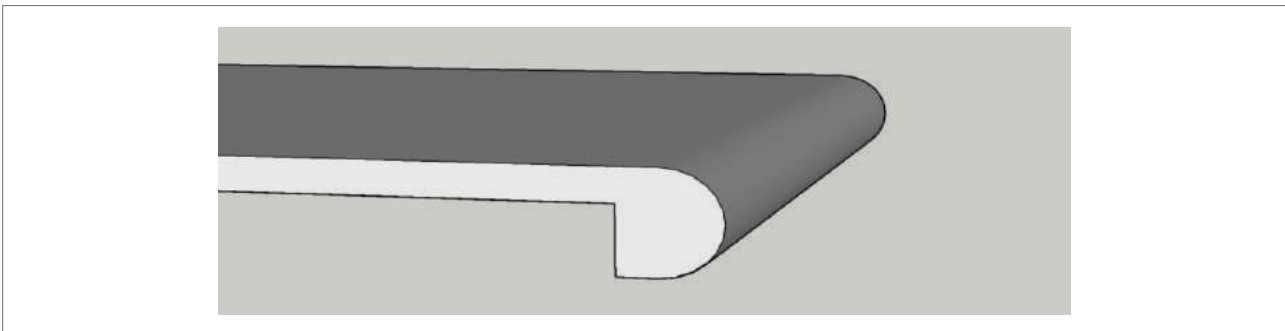

Fig.5
- Once fully cured, trim the edge square by using a table circular saw, then machine the required profile using a portable hand router or spindle moulder. Fig.5.